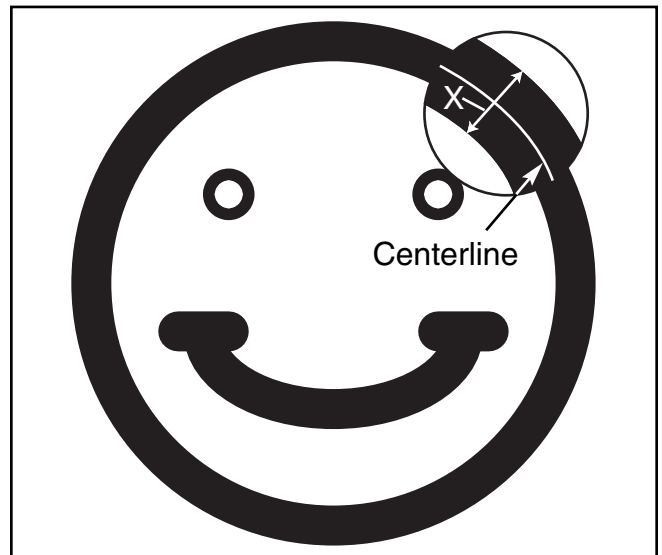

Figure 23. “X” equals the diameter of the router bit.
1. Draw out the full scale pattern on a piece of paper. A computer aided drawing program can be helpful here, but it is not necessary. Be sure that the pattern drawing takes into account the area that will be cut away during the routing operation. It is best to draw a line that represents the centerline, then draw two more lines on each side of the centerline, representing the actual width of the routed line. For example, we are using a $\frac{1}{4}$ " bit, so we need to measure $\frac{1}{8}$ " off of either side of the centerline to account for the full width of the routed line as shown in **Figure 23**.